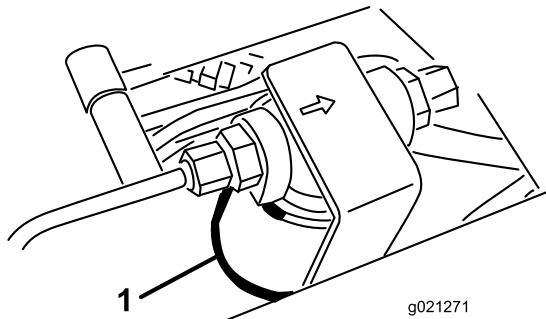

Figure 104
2. Clean the area around the filter-mounting area and place a drain pan under the filter (Figure 104) and (Figure 105).